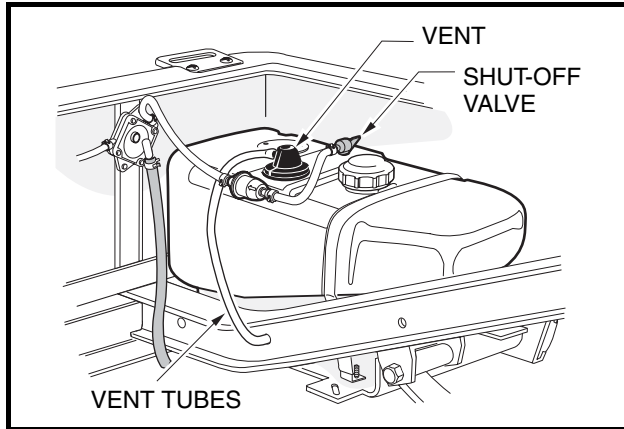

Figure 32 Fuel Tank
- If the vehicle has an all-weather enclosure installed, be sure the fuel tank is properly vented as shown (Figure 32).